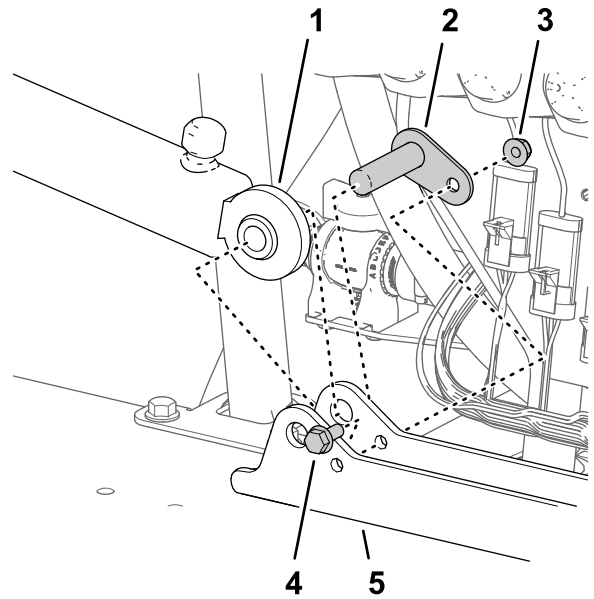

Figure 117
2. Assemble the cylinder to the cylinder mount with the pivot pin, flanged-head bolt, and flange nut (Figure 117).
1. Align the fixed end of the lift cylinder that you removed in step 3 of Removing the Lift Cylinders \(page 23\) to the 16 mm (5/8 inch) hole in the cylinder mount (Figure 117).